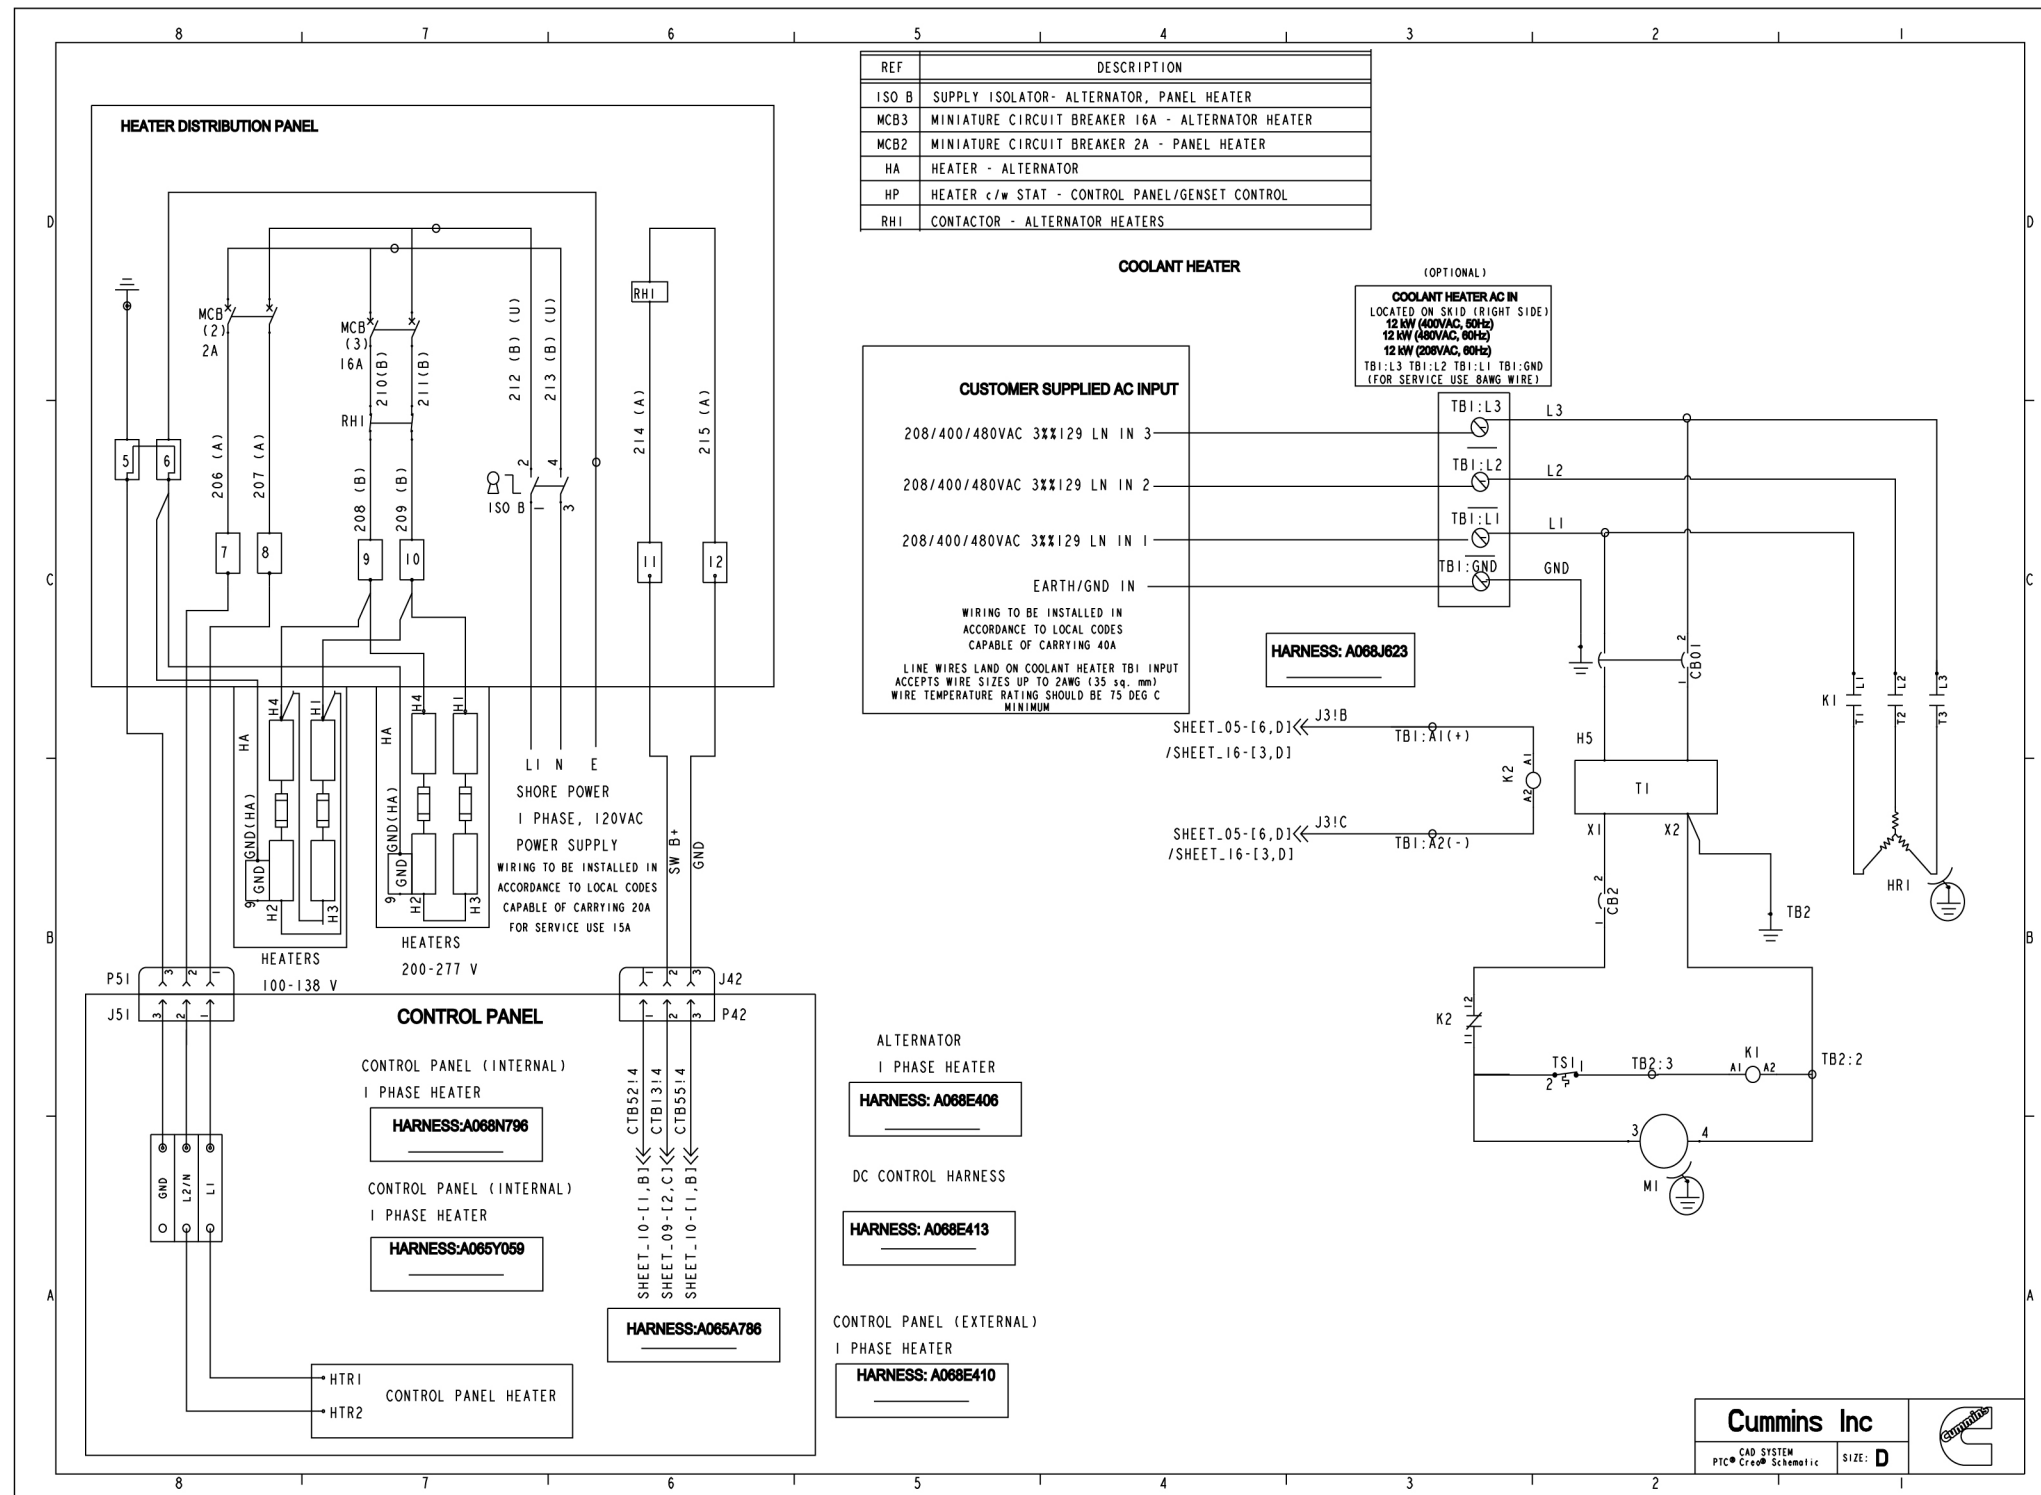

FIGURE 97. WIRING SCHEMATIC (SHEET 13)
- Figure 97. Wiring Schematic (Sheet 13) 401